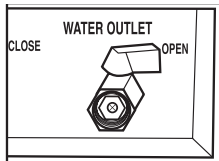

Fig. 2
3. Rinse thoroughly and drain by opening the water outlet valve, accessible when the door panel is opened. (Fig. 2)